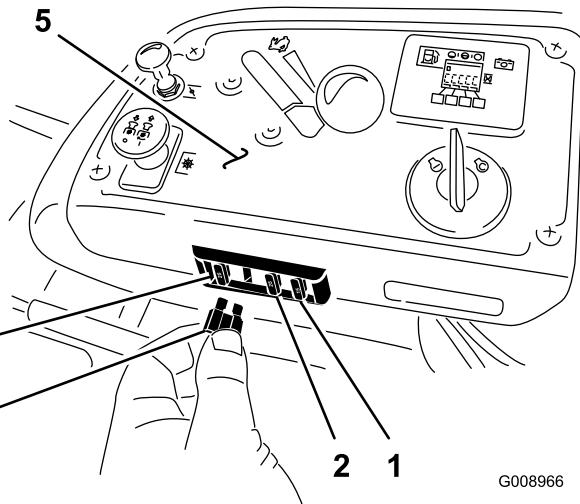

Figure 61
- The fuses are located on right hand console next to the seat (Figure 61).
- Install a new fuse (Figure 61).